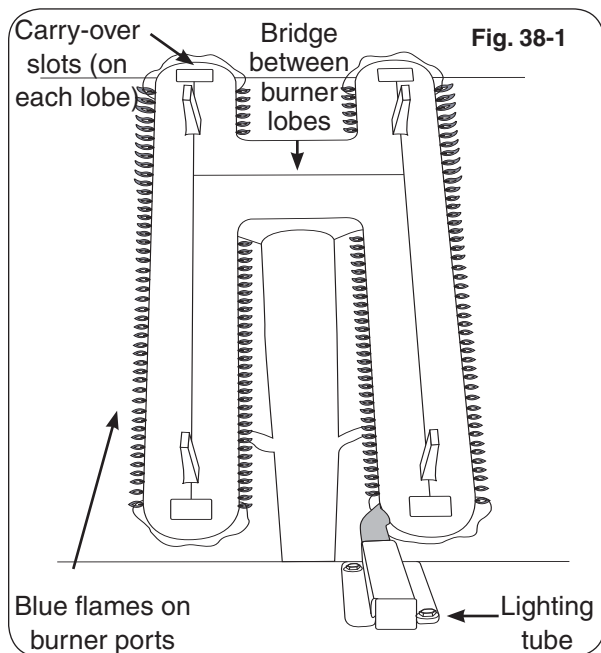

Fig. 38-1
Flames from a properly adjusted main burner with no wind or breeze present will appear fairly steady, consistent, and mostly blue. If the tip of a flame were to turn orange, it should only do so briefly and then become blue again. The flames will appear to burn while touching the burner ports (see Figure 38-1).
5. Repeat steps 1-4 until the flames appear to touch the burner ports, burning fairly steadily and mostly blue (see Fig. 38-1).